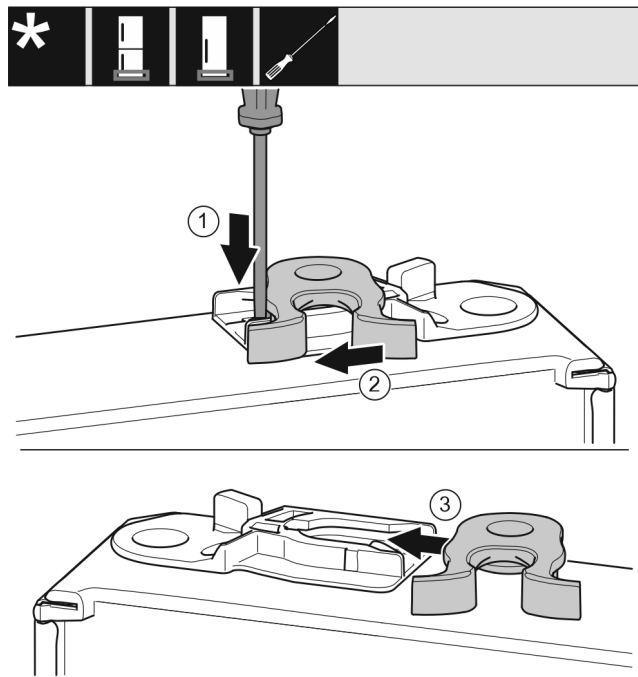

Fig. 40 *
- ▶ Use a slotted screwdriver to push the tab Fig. 40 (1) downwards.*
- ▶ Pull the closing hook Fig. 40 (2) out of the guide.*
- ▶ Insert the closing hook Fig. 40 (3) into the guide on the other side.*